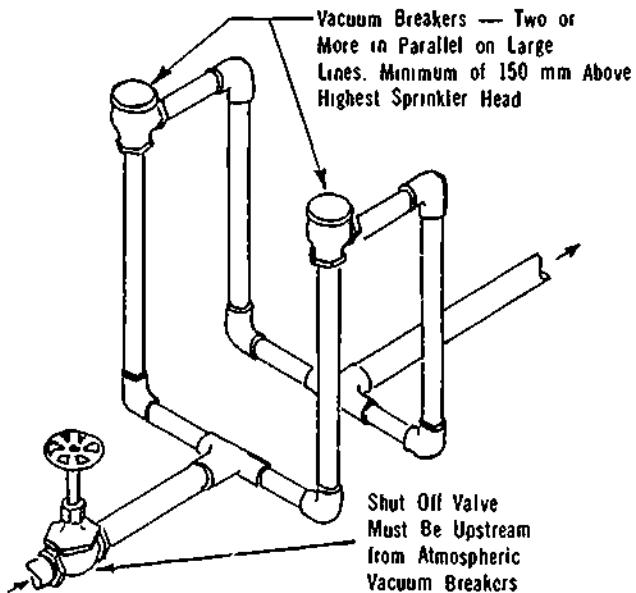

Figure 30-10. Atmospheric Vacuum Breaker, Style for Sprinkler System Application
52. Reduced Pressure and Pressure Type Vacuum Breaker units should be installed above the ground. They may be free-standing in locations without frost. Chambers or houses should be provided for protection against frost and vandalism. (See Figures 30-10 and 30-12.)
55. A drain line with air gap and funnel must be provided to receive discharge from the differential relief valve on Reduced Pressure Type Vacuum Breaker units. This is not required on Pressure Type Vacuum Breaker units because the vacuum breaker introduces air into the system only to break the vacuum. (See Figure 30-10.)